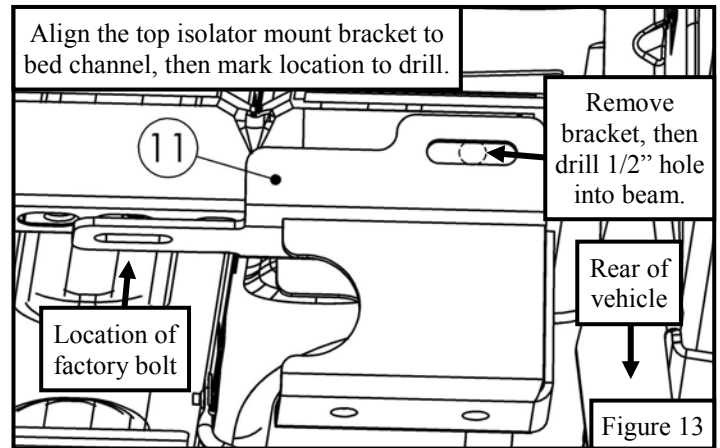

Figure 13
- On either side of the vehicle, directly behind the cab, underneath the bed locate the bed channel that mounts the bed to the frame. There will be 2 pre-existing bolts. Remove these two bolts. Locate (1) top isolator mount bracket (Item 11) and align it to the beam and mark location to drill. Drill location using 1/2" drill bit. See **Figure 13**.